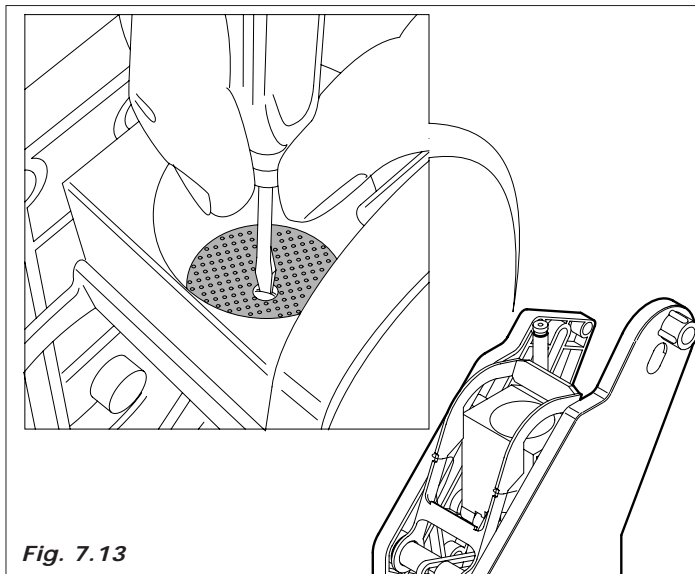

Fig. 7.13
- Loosen the screw (Fig. 7.13), wash the filter and replace if necessary.